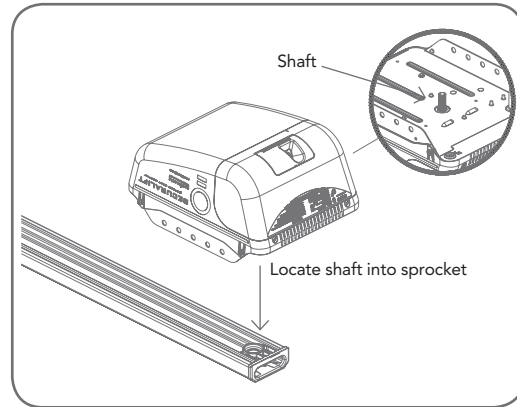

fig 11
- a. Locate and insert the shaft of drive unit into the track's sprocket (**Fig. 11**).